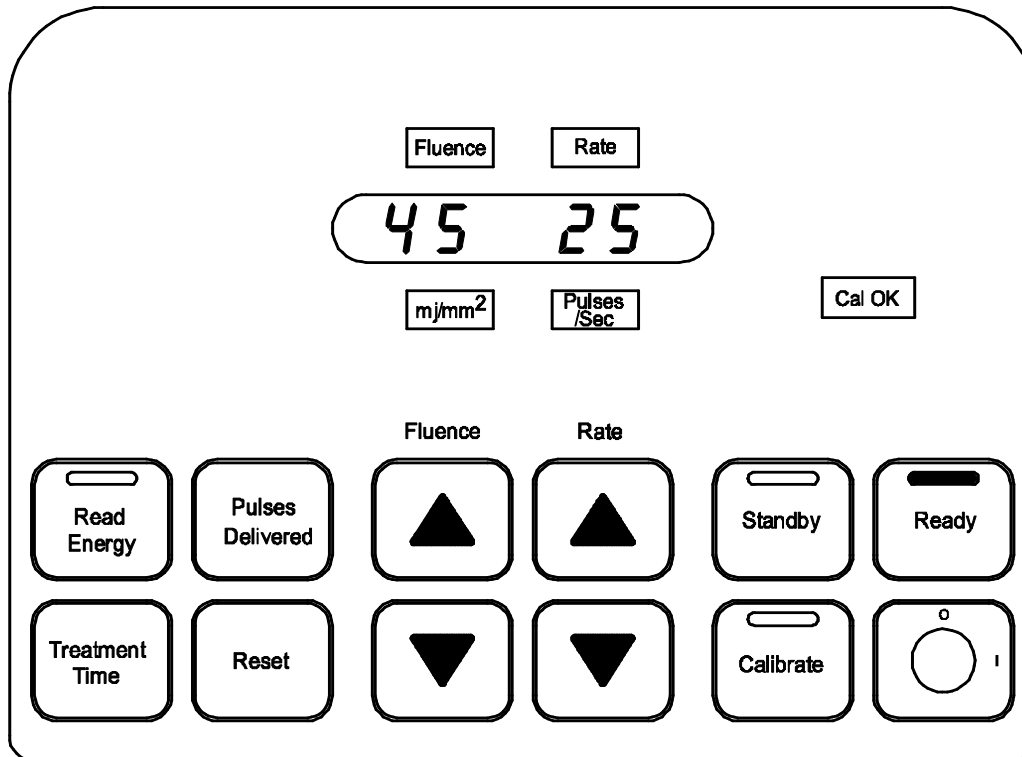

Figure 14
1. **Ready** mode is entered from **Standby** mode by depressing the **Ready** button. (Figure 14)